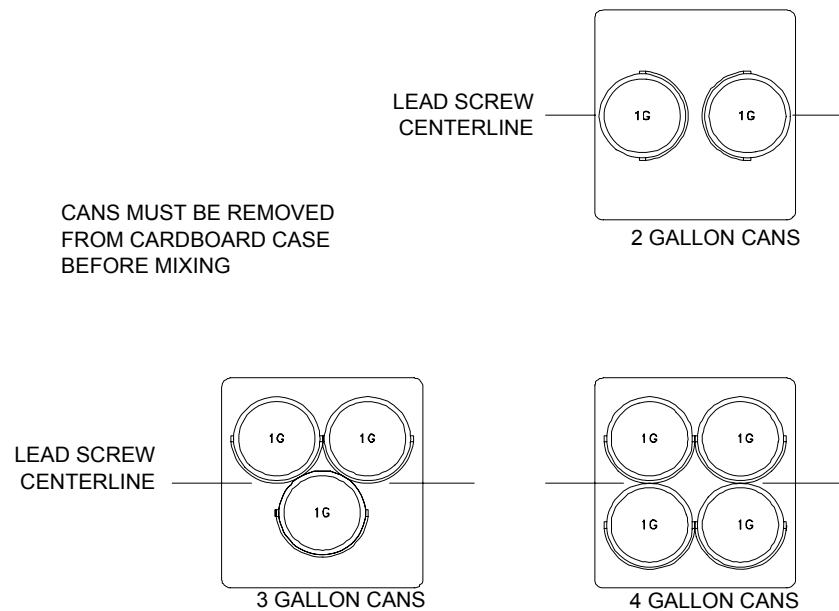

Figure 3. Gallon Can Placement
- Do not mix more than one full case (four 1-gallon cans) of paint at one time. The maximum weight limit is 80 pounds for paint and 60 pounds for stucco mixture. See BASIC OPERATION, Figure 3, “Gallon Can Placement” on page 13.